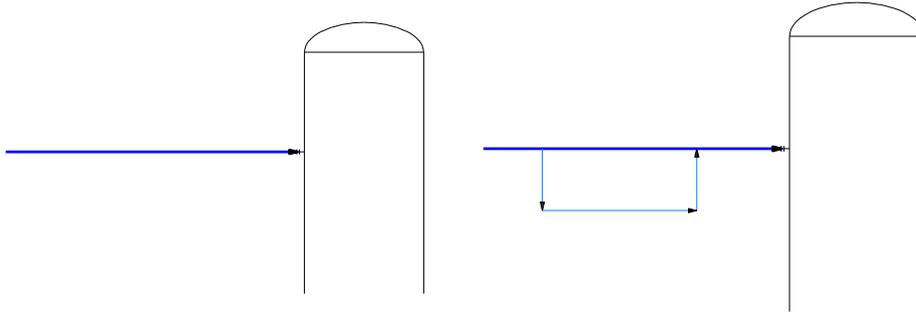

Figure 2-49 Line connected to the vessel *Figure 2-50* Loop created on the previous line
1. Invoke the **Primary Line Segment** tool and specify the start point as (4,13). Next, move the cursor horizontally toward right and specify the endpoint on the vessel; the line is created, as shown in Figure 2-49. Note that this line will be referred as feed line in this tutorial.